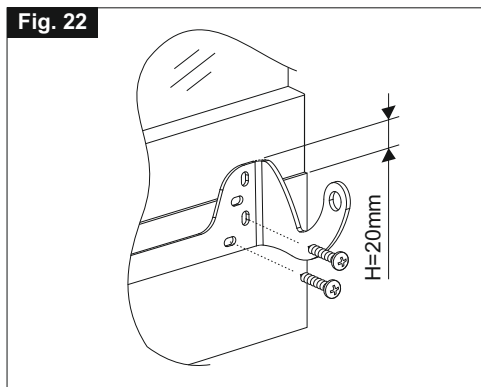

Fig. 23
- 10) **Fig. 23-** Insert the chain end before the left connection point (**Ref. 1**) and then on the right connection point (**Ref. 2**);